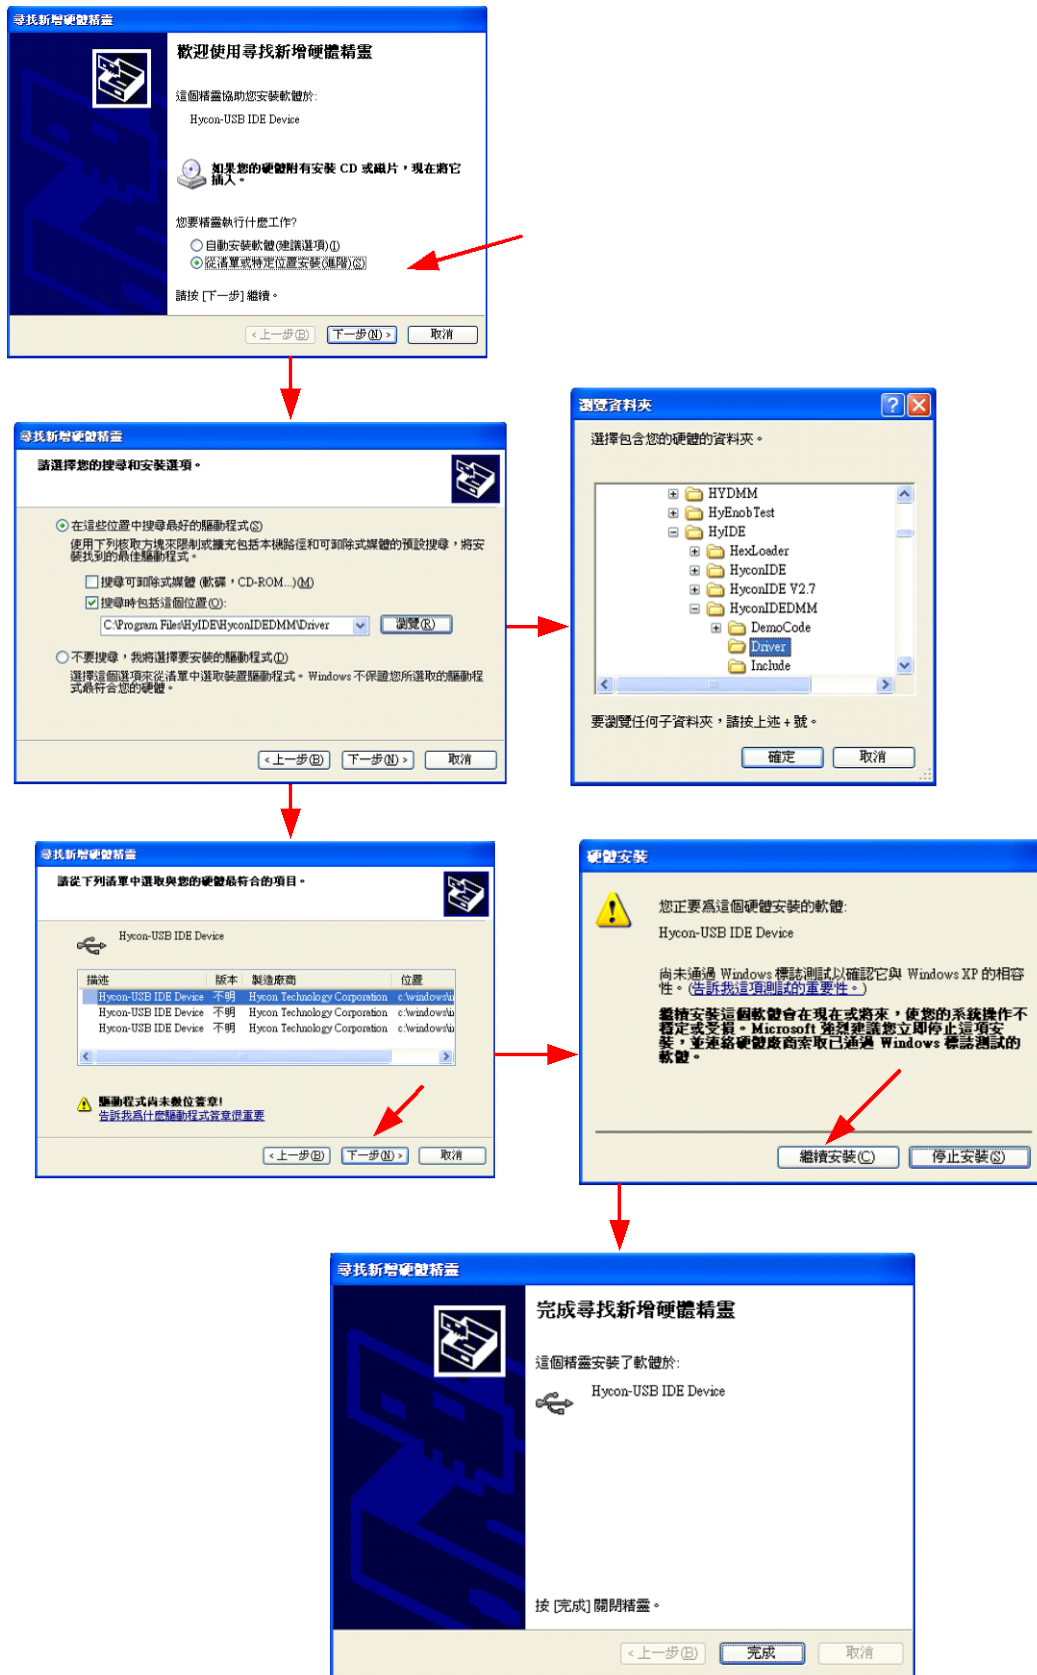

Figure 2
- First-time installation must initiate USB driver program, the setup procedures are as Figure 2 shown.